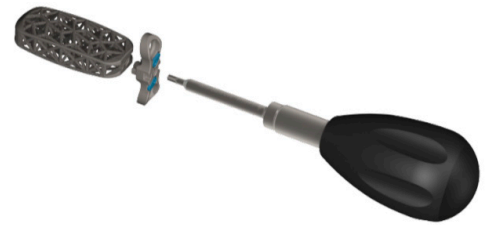
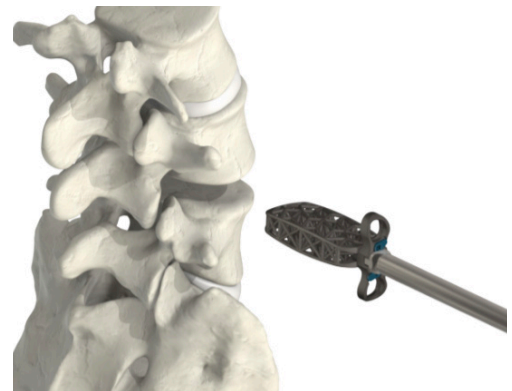

Figure 9
Figure 10
- ▲ If an integrated plate is desired, the appropriate LSTS Plate may be attached to the LSTS Interbody on the back table using the LSTS Plate Driver (Fig. 9). After the LSTS Plate is attached to the LSTS Interbody, thread the LSTS Inserter into the LSTS Plate to insert the LSTS Plate and LSTS Interbody as one construct (Fig. 10).